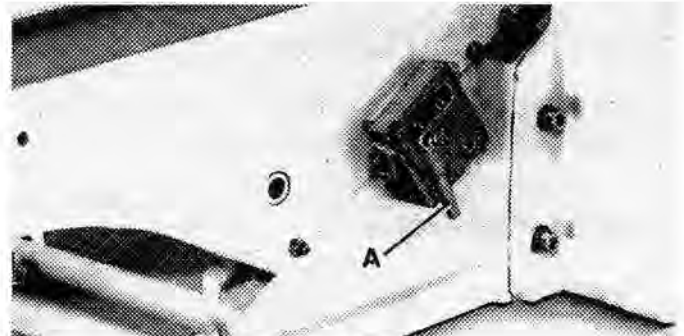
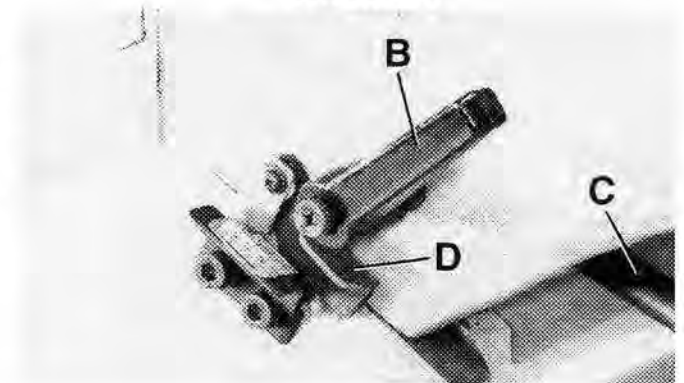
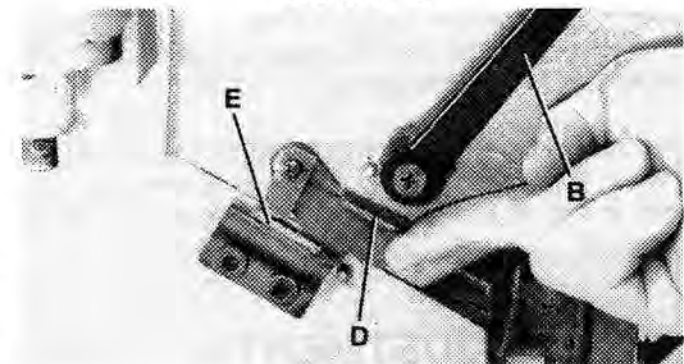

FIGURE 18
FIGURE 19
FIGURE 20
1. To raise or lower the infeed table, loosen table lock handle (A) Fig. 18, which is located at the rear of the infeed table and loosen locking handle (B) Fig. 19, which is located at the front of the infeed table.
2. Turn the infeed table adjustment handwheel (C) Fig. 19.
3. **IMPORTANT:** When lowering the infeed table, a depth stop (D) Fig. 19, will automatically stop the table at a 1/8" depth-of-cut. To move the table past this point, the depth stop (D) Fig. 20, must be raised, while simultaneously lowering the infeed table. Always make certain table locking handles (A) Fig. 18, and (B) Fig. 19, are tight before operating the jointer. The locking handles are springloaded and can be repositioned by pulling outward on the handle and repositioning it on the serrated nut located underneath the handle.
4. The depth-of-cut of the infeed table (position of the infeed table in relation to the cutting circle) is indicated on scale (E) Fig. 20. **NOTE:** Maximum depth-of-cut with this jointer is 1/2", which can be accomplished in cuts of 1/8" increments.